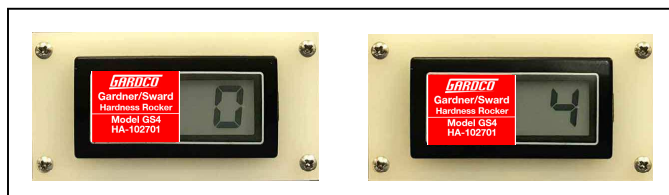

Figure 8
*Step-8 If at the end of the count cycle the Rocker displays the **Calibration Required**, Code (4-0), as shown in **Figure 8**, pick up the Rocker, enable the **Calibration Mode**, then go back Step-3; otherwise, go to Step-9.*